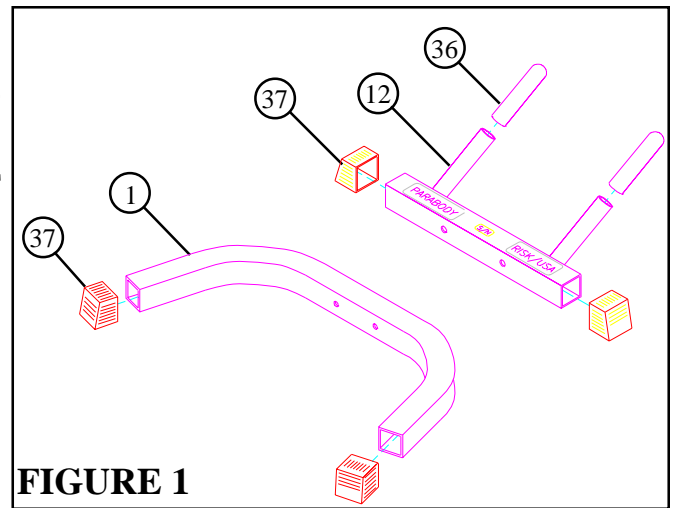

FIGURE 1
STEP 1: Insert four PARABODY LOGO END CAPS (37) into the ends of REAR BASE LEG (12) and FRONT BASE SUPPORT (1). See FIGURE 1.
STEP 2: Slide two 1-1/4 x 5" GRIPS (36) over tubes on REAR BASE LEG (12). See FIGURE 1.